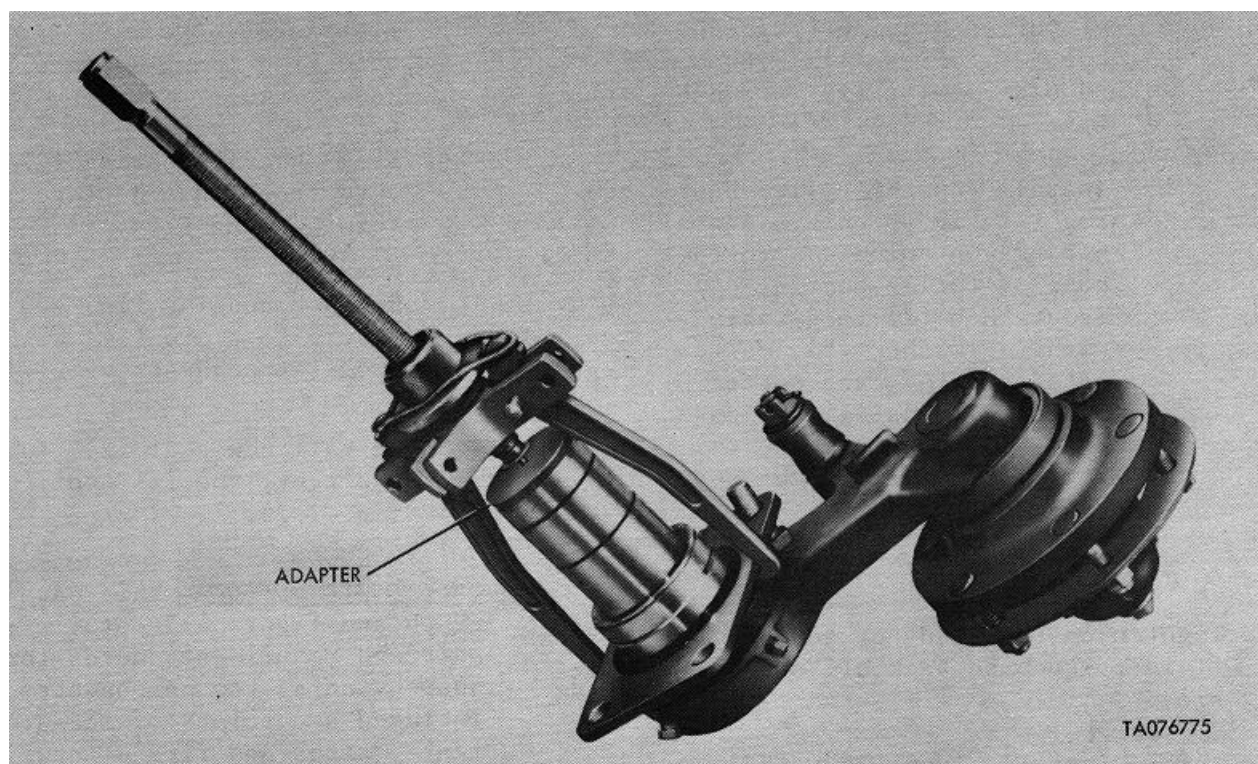

Figure 4-5. Trunnion - Plate and Needle Bearings Removal Using Puller with Adapter
(b) Remove retaining ring (23). Remove needle bearing (22) from trunnion of arm (25), using puller, special tool (14, fig. 1-2) (fig. 4-5) and adapter, special tool (1, fig. 1-2). Remove retaining ring (21), washer (20), and spacer (19). Remove plate (14) and needle bearing (18) from trunnion, using common puller kit, and adapter, special tool (1, fig. 1-2).
Use oil seal replacer, special tool (39, fig. 1-2) (fig. 4-5) to accomplish the assembly procedures given in step (d).